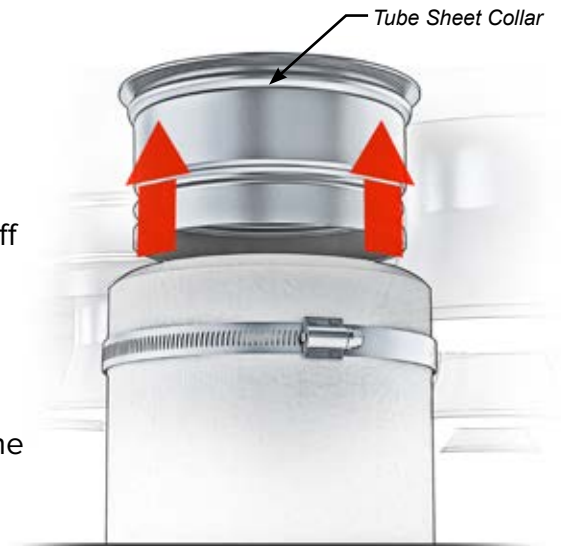

FIGURE 10
5. Slip the retainer/bag/clamp assembly over a collar in the tube sheet (see Figure 10).